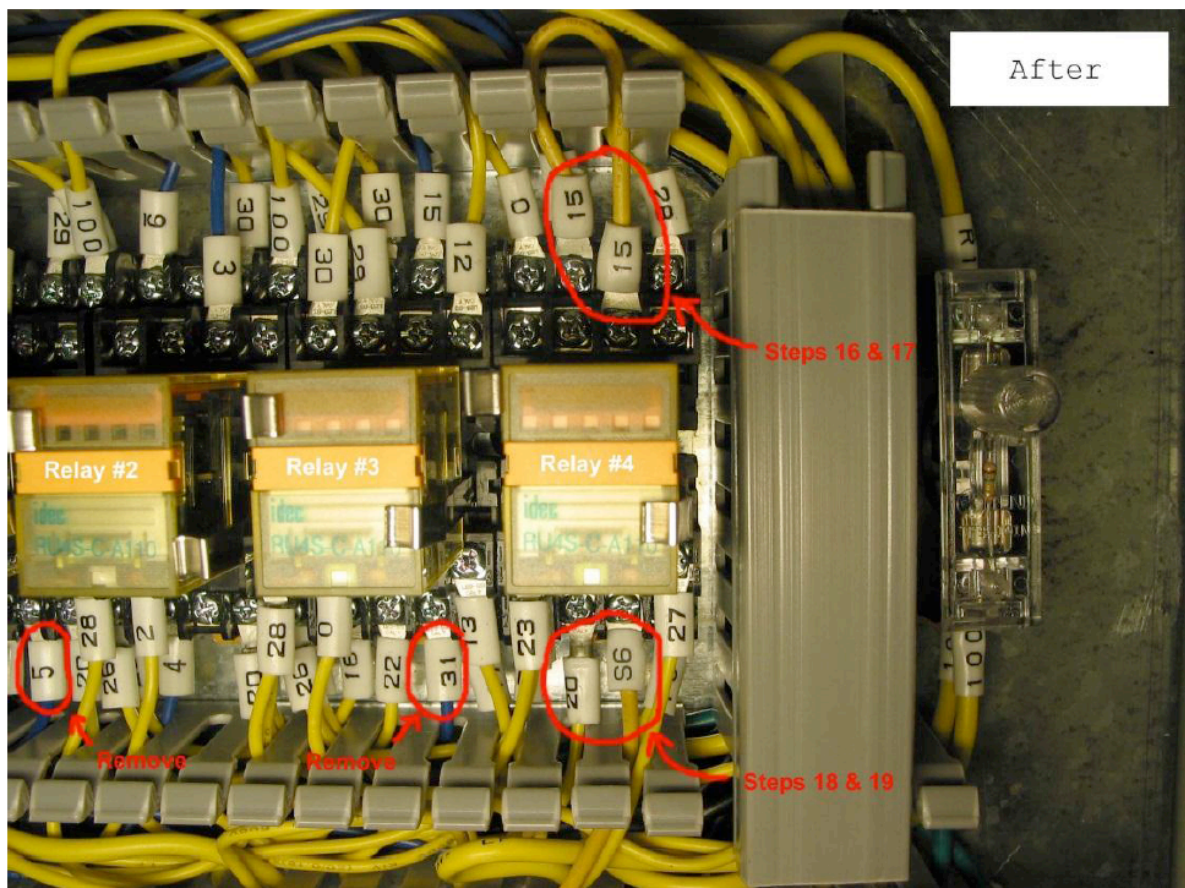

Figure 2
- Step 16 Locate the two wires labeled **15** located above Relay #4 (top row, 2nd terminal from left), now add/connect the supplied jumper wire labeled **15** to the same terminal and secure the other end of the yellow jumper wire labeled **15** to the terminal where wire **21** was removed from (bottom row, 3rd terminal from left). Refer to Figure 2 for visual details.
- Step 18 Connect one end of the yellow wire labeled **S6** to the terminal located beneath relay #4 (bottom row, 3rd terminal from left). Route and connect the other end of the wire to the terminal labeled **S6** on the Yaskawa V1000 drive. Refer to Figure 2 for visual.